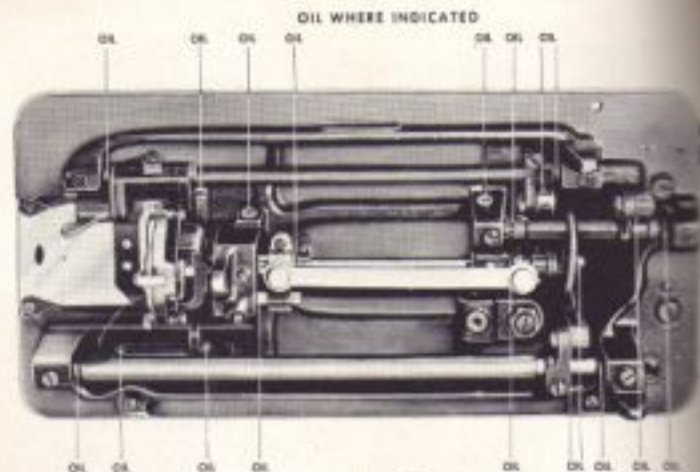

Fig. 3
c. Tilt the machine back on its hinges, so that the underside is accessible, and apply a drop of oil to all oiling point indicated in Fig. 3 by pointers.